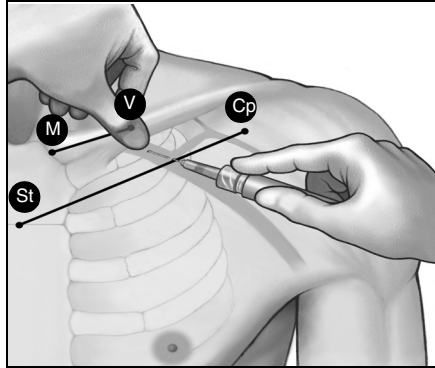

Figure 10. Location of thumb and needle entry.
4. Press a thumb against the index finger and project one or two centimeters below the clavicle to shield the subclavius muscle from the needle (when hypertrophy of the pectoralis muscle is apparent, the thumb should project about two centimeters below the clavicle because the subclavius muscle should be hypertrophied as well) (Figure 10).